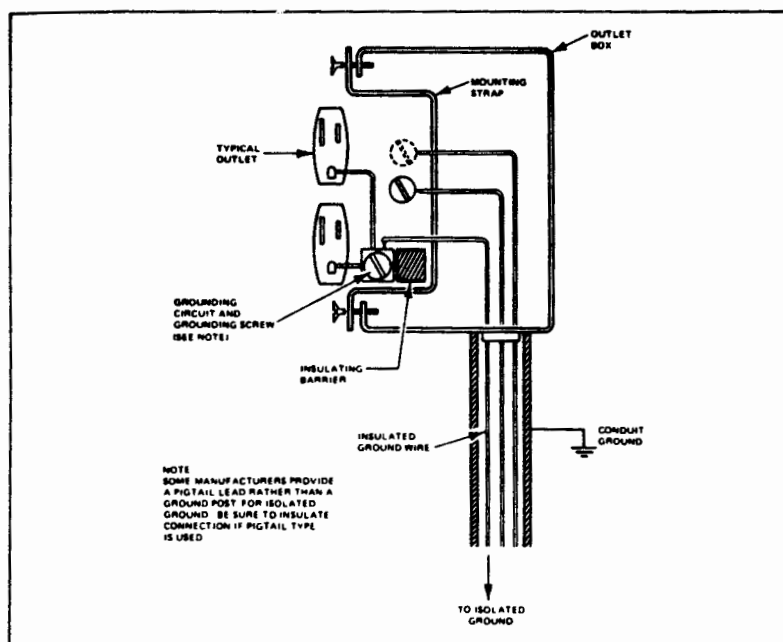

Figure 3-2. Isolated Ground Receptacle
Isolated Ground (IG) receptacles contain insulation barriers that keep the computer's ground wire from contacting the receptacle's mounting strap. This prevents contact with the conduit ground. See Figure 3-2.